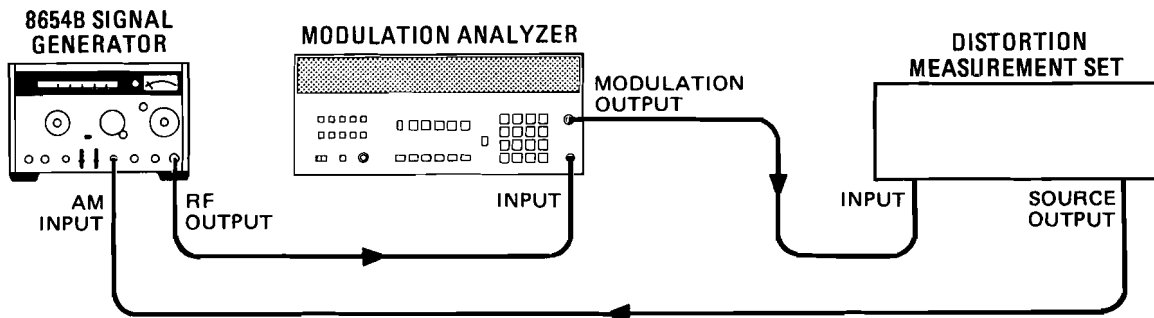

Figure P1-1. AM Distortion Test Setup
12. Connect the equipment as shown in Figure P1-1. Set the distortion measurement set to measure the distortion on the modulation output. Set the source frequency and either the source level or the Signal Generator AM LEVEL control for the AM readings on the Modulation Analyzer indicated below. The distortion should be within the limits shown.